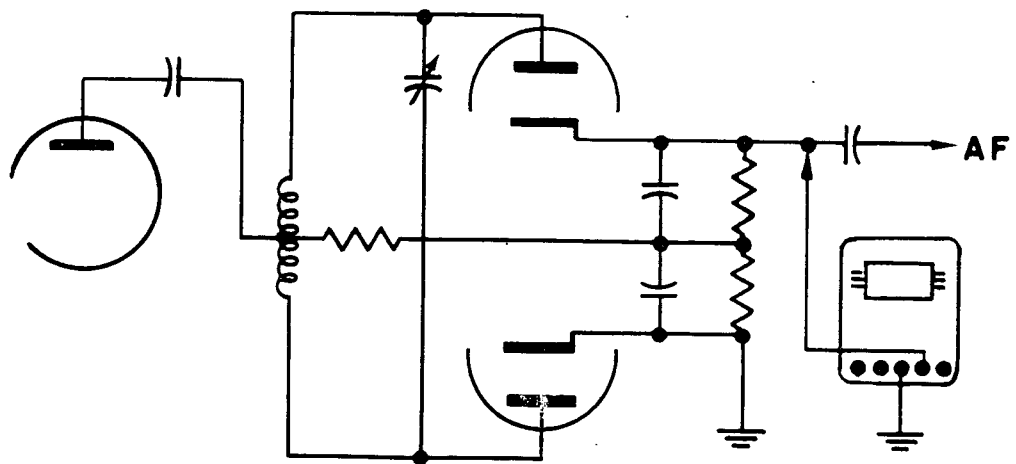

Fig. 6—BALANCED DISCRIMINATOR
- (b) FM detectors may be aligned very accurately by connecting the Polymer in such a way as to indicate point of balance. Fig. 6 shows this connection for the balanced discriminator, Fig. 4B connection shows the connection for one version of the ratio detector. In either case, the IF frequency of the set is fed in from an unmodulated signal generator somewhere ahead of the detector, and the secondary of the detector inductance is tuned for zero indication. On one side of perfect balance there will be a high plus reading obtained, and on the other side, a high minus reading. The zero center scale on the Polymer is specifically provided for this purpose.
- (3) Intermediate frequency voltage and gain may be measured in the same way as RF voltages. It is not necessary to "tune" or adjust anything on the Polymer when changing